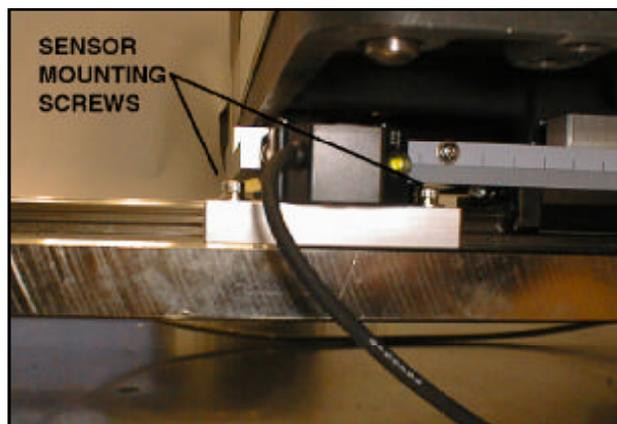

Figure 5-12. Sensor mounting screws.
- b) Loosen the sensor mounting screws, Figure 5-12.